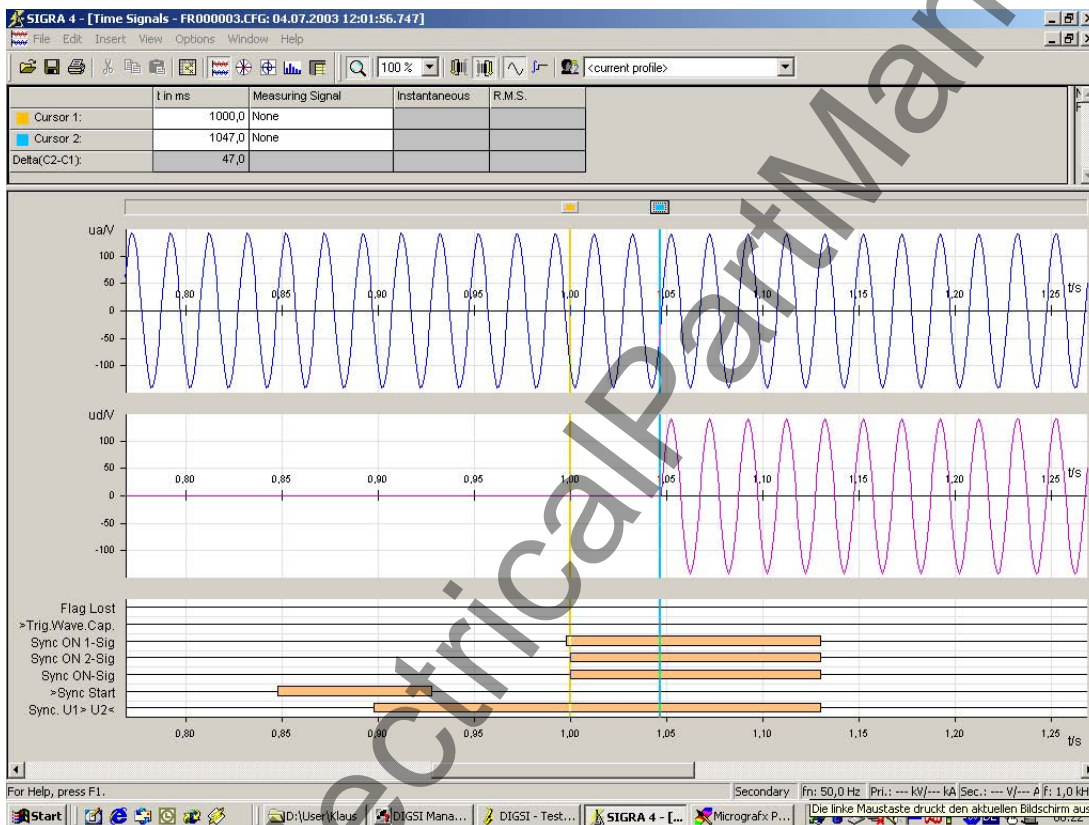

Figure 3-24 Web Tool — Measurement of the circuit breaker closing time
- Read the fault record out and measure the closing time with SIGRA (see Figure 3-24). Use both cursors and the time measurement function for that purpose. The occurrence of the 2nd voltage signals the closed poles.